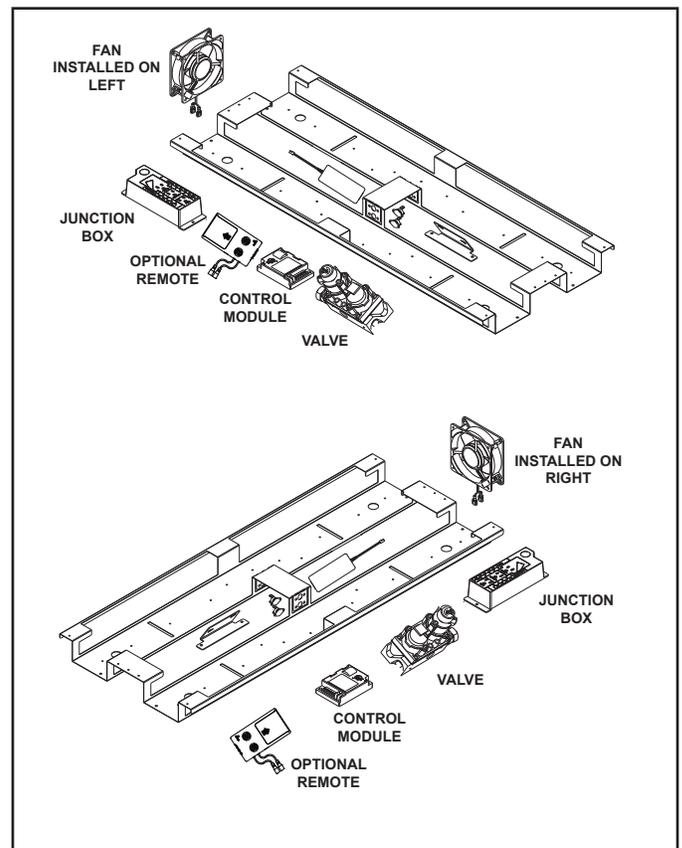

Figure 8.4. Controls Location Diagram
**Note:** If the fan is moved from one side to the other, the junction box must also move. See appropriate configuration in relation to the valve in Figure 8.4. The valve does not move.